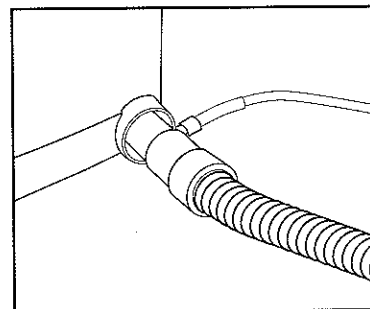

Figure 9
3. Oxygen may be injected into the air supply by connecting one end of standard oxygen tubing to the oxygen "T" adapter and the other end to the oxygen source **Figure 9**.